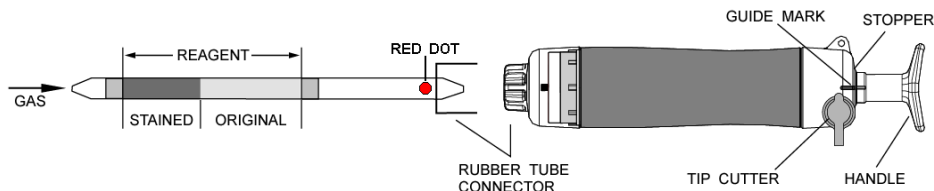

Fig.1
- ② Insert the detector tube into aspirating pump securely as shown in Fig.1. (Red dot shall point to the pump.)
- ③ Align the guide marks on the shaft and stopper of the aspirating pump.
- ④ Pull the pump handle at full stroke until it locks and wait for 1 minute or until the completion of sampling is confirmed with the flow indicator of the pump (See descriptions about the flow indicator in the instructions of the pump).
- ⑤ On completion of sampling, remove the detector tube from the pump. Align the zero end of the detecting reagent (inlet side of the tube) with the "0-0" line on the concentration chart and the other end with the "X-X" line respectively. Read the concentration at the top of the maximum point of the stained layer against the scale on the chart.